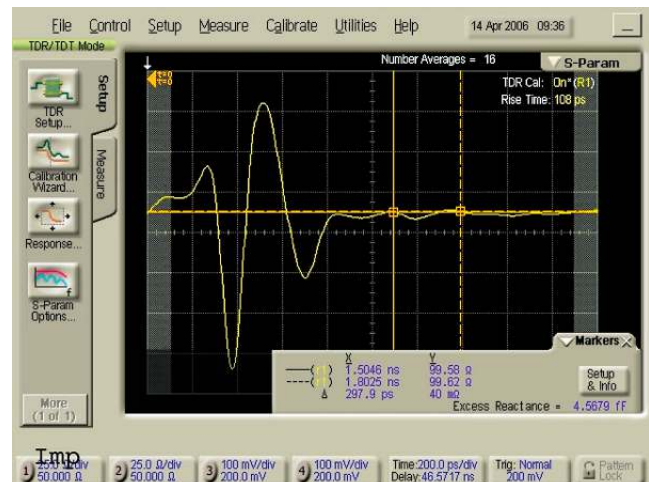

Figure 3. Mated Connector
- 2 Adjust the scope timebase and delay to display the mated connector impedance on the screen (see Figure 3).
- 1 Adjust the scope delay and time base to show the first 500 ps of cable response after any vestige of the connector response. You can use a vertical marker to tag the point on the trace where you want to start the measurement (typically 1.5 to 1.8 ns beyond the reference plane – see Figure 3), move that point to the left of the screen and set the time/div to 50 ps